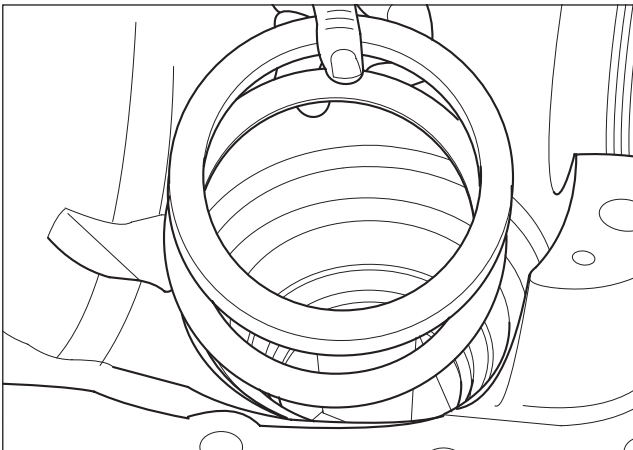

Fig. 2.45
- Insert shims and place into the bottom of the counterbore. (Fig.2.45)